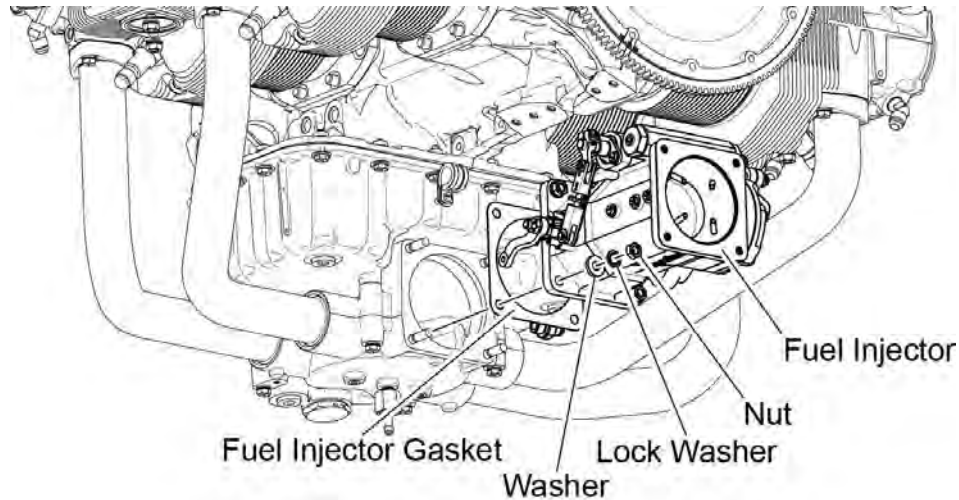

Figure 8
- (1) Put a fuel collection container under the fuel injector (Figure 8).
- (2) Apply an identification label to each fuel line and disconnect the fuel lines attached to the fuel injector.
- (3) Let fuel drain out of the fuel injector and fuel lines into the fuel collection container.
- (4) Hold the fuel injector and remove the four nuts, lock washers, and washers from the fuel injector. Discard the lock washers.
- (5) Remove the fuel injector and its gasket. Discard the gasket.
- (6) Remove the fuel collection container.
- (1) Align the fuel injector on the engine with a new gasket (Figure 8).